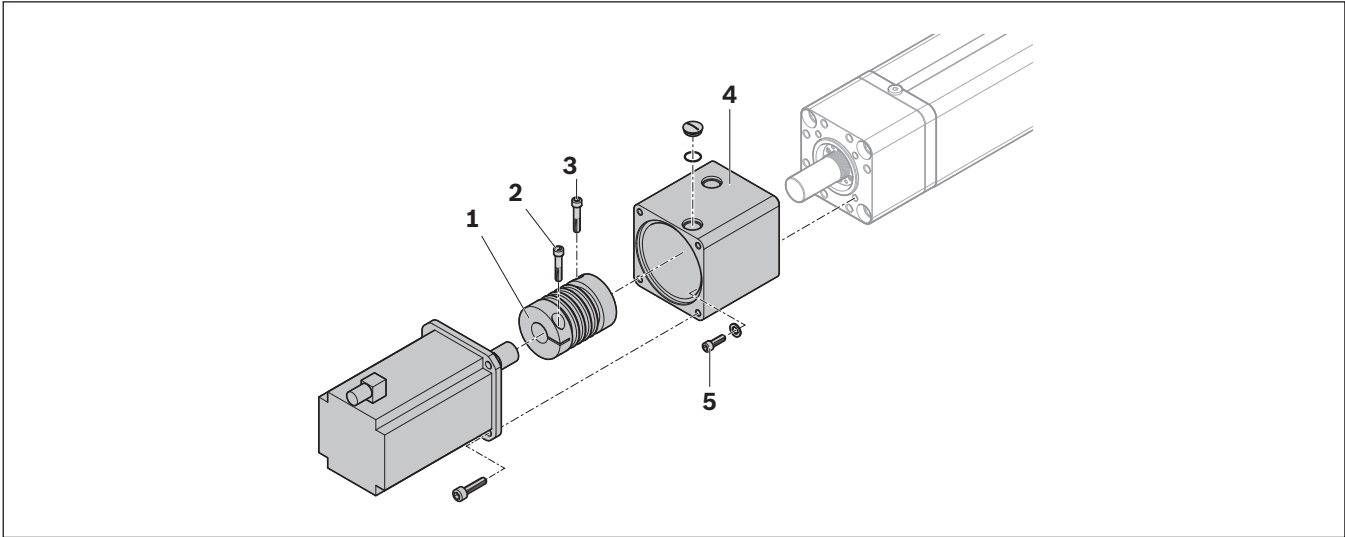

Fig. 16: Mounting the flange with coupling
6. Push the motor into the locating feature of the flange and coupling ➔ Fig. 16 on page 20 and fasten with four screws with tightening torque ➔ Table 21 on page 46.
7. Tighten the fastening screw (2) of the coupling on the motor side with the tightening torque M_A ➔ Table 12.
8. If necessary for tightening the second screw (3), release the motor brake and move the piston rod so that the screw journal turns.